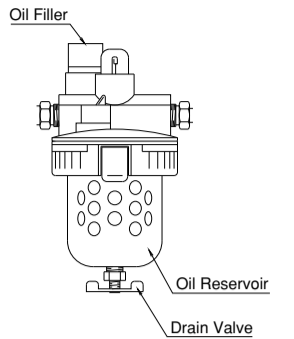

Fig.18
④ Remove Oil and Moisture Regularly (Fig.18)